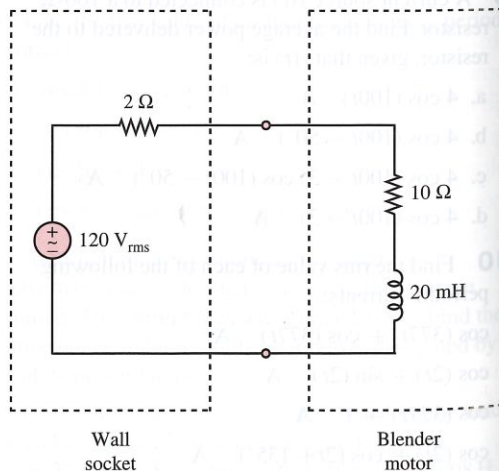

Figure P7.21
7.21 The motor inside a blender can be modeled as a resistance in series with an inductance, as shown in Figure P7.21. The wall socket source is modeled as an ideal 120 V rms voltage source in series with a 2-Ω output resistance. Assume the source frequency is $\omega = 377 \text{ rad/s}$.